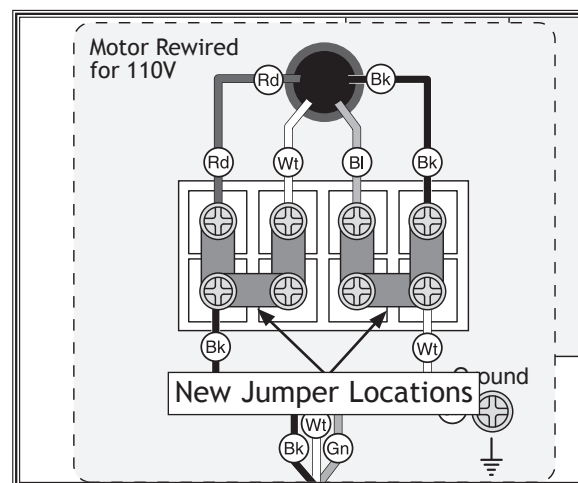

Figure 5. Relocated jumpers.
3. Remove the two center jumpers (they are stacked together), reposition them as shown in **Figure 5**, then re-tighten the four screws loosened in **Step 2**.